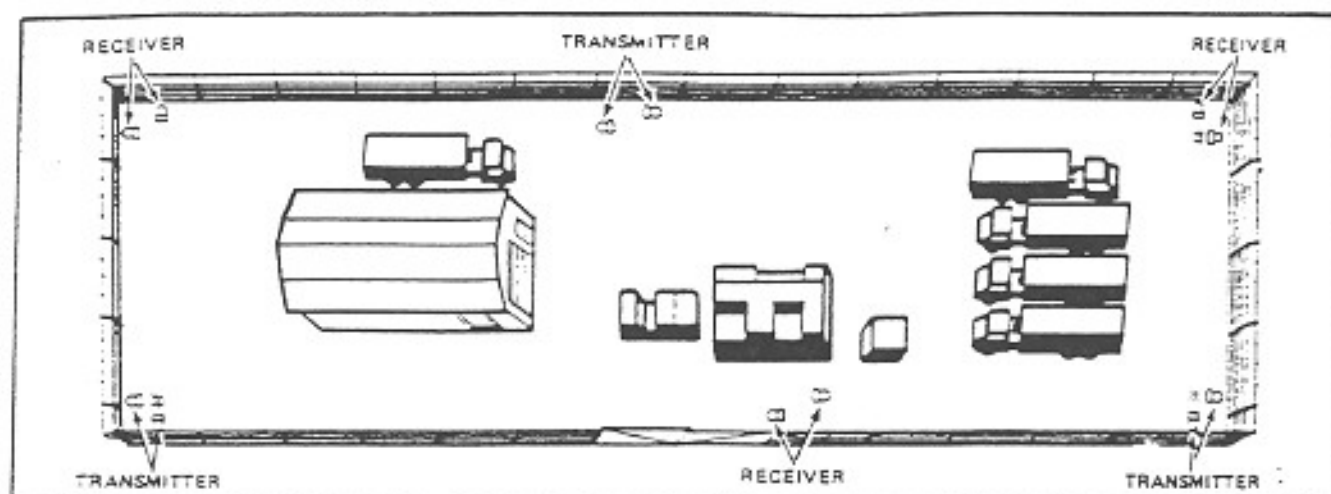

Figure 7. Perimeter Layout
5. Always place two Transmitters or Receivers at corners and intermediate points of linear zones requiring two or more microwaves. This eliminates the possibility of a Transmitter overpowering a Receiver located in the same corner, which could interfere with the proper operation of that microwave pair. Refer to Figure 7.